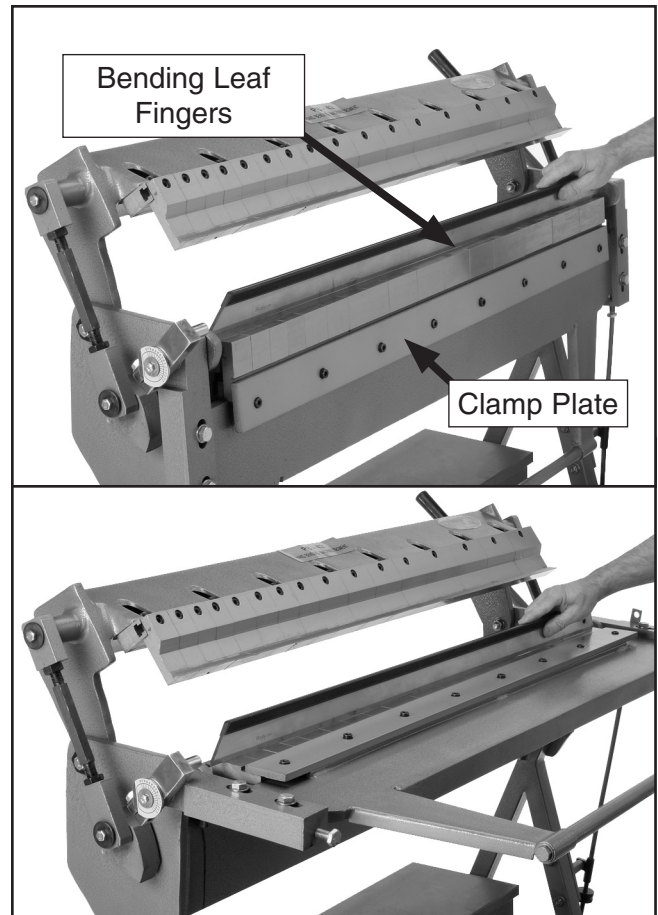

Figure 17. Finger edges aligned.
1. Place a straightedge across the bending leaf fingers as shown in **Figure 17**.